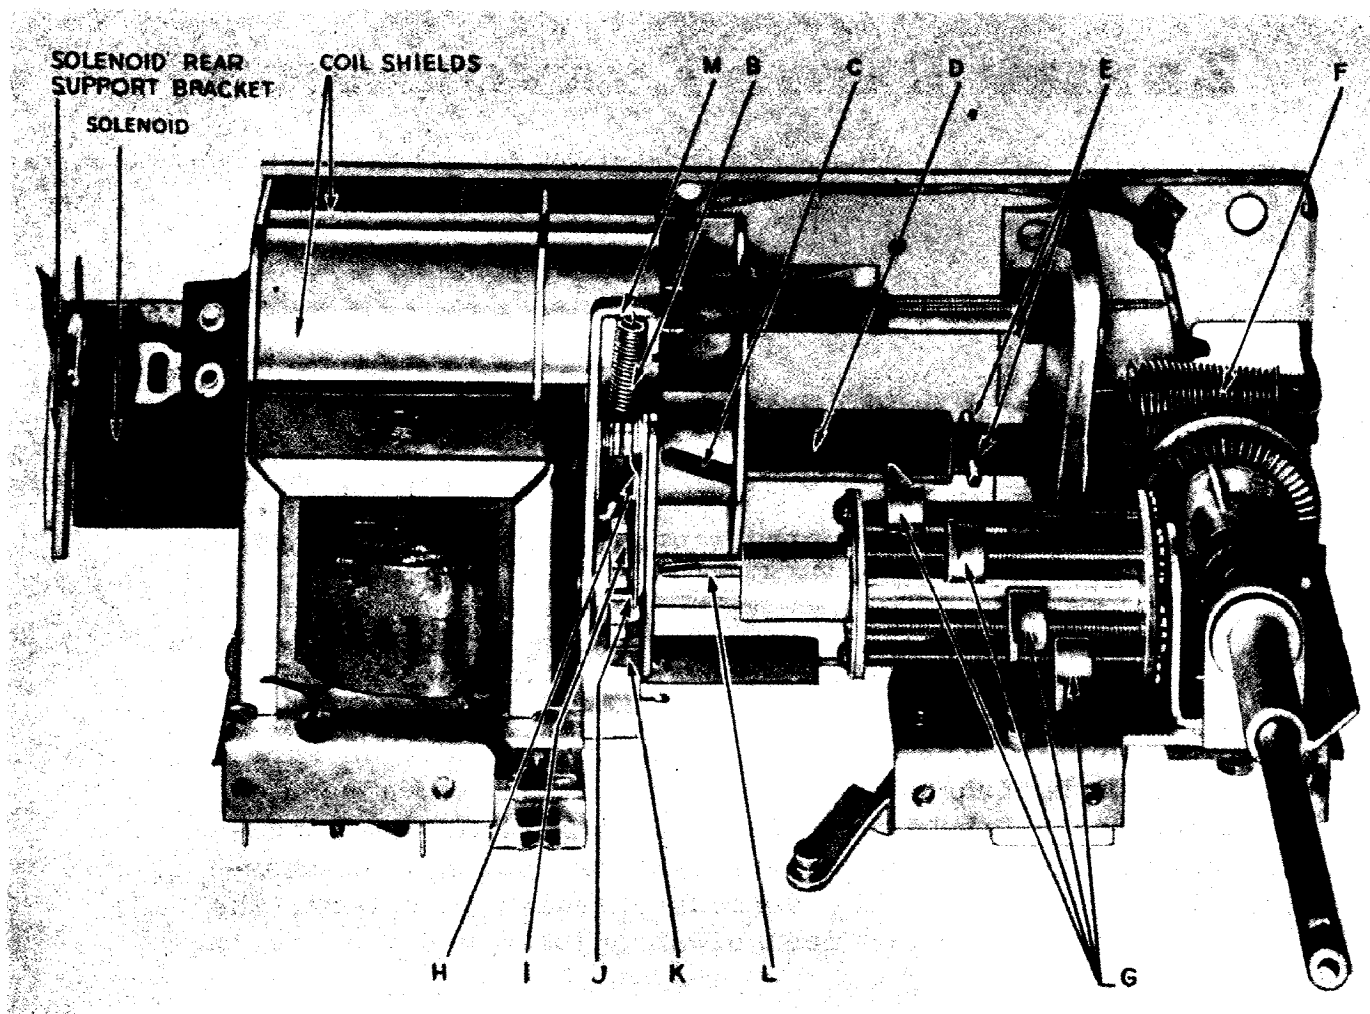

FIGURE 1
As the cross arm returns to the resting position, the ratchet lever trip pins E force the ratchet lever C upward, turning the turret of the turret assembly 60 degrees (see Fig. 1). This operation places a new turret stop in position for the cross arm to rest against while tuning manually or setting an automatic station.
CAUTION: Do not stretch the cross arm return spring F (Fig. 1).
- 6—Remove any heavy lubricant or grease from the plunger D (Fig. 1) to avoid a tight fit in the solenoid. A light application of lubriplate is sufficient to lubricate the plunger.
from returning the cross arm to the resting position (see Fig. 1). Pressure at Q applied towards the rear of the solenoid with a screw driver will bend the front solenoid support bracket M to relieve the binding.
- 2—The plunger trip pins E may hang up at a burr or a rough edge on the spiral slot in the ratchet lever collar C (Fig. 1). The slot can be burnished smooth by working the pins in and out of the slot a few times while the collar is restrained from turning freely.
- 3—A loose ratchet lever spring B (Fig. 1) will cause the plunger to stick because of the added friction when the ratchet lever rides on the trip pins instead of rising to its normal position.
- 7—If the indicator drum binds or the turret support brackets are tight the turret action will be retarded so that the stops G (Fig. 1) will not be in position to intercept the cross arm, thus allowing the cross arm to get behind the stops. The detent lever J (Fig. 1) must be released and the ratchet lever C forced down so that the stop K will clear the ratchet I before rotating the turret manually so that the cross arm may be guided past the turret stops.